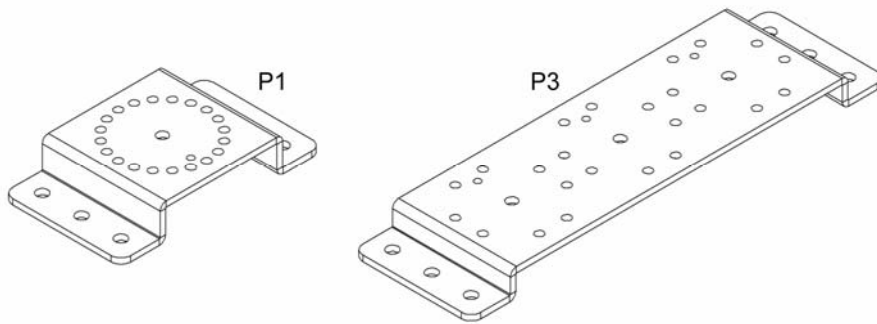

Figure 1 - P1 and P3 plates in the FLAT mounting position
All of these assemblies are *Flat Mount with Riser (FM)* types which include either the *P1* mounting plate which supports one riser with one arm, or the *P3* mounting plate which can support either one or two separate risers with arms (See Figure 1).